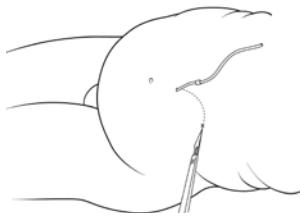

Figure 34
4. Make a stab incision with #11 scalpel blade to full width of blade at the exit site. (Figure 34).